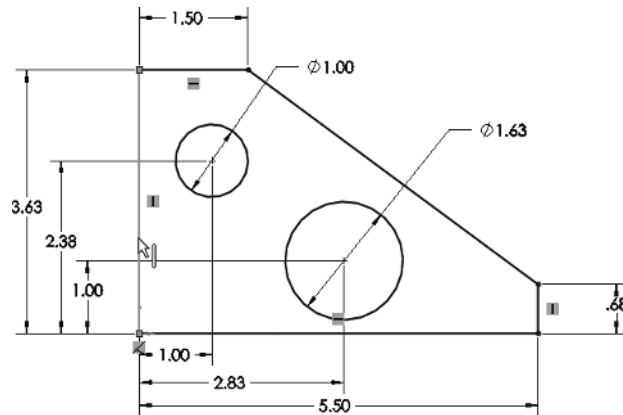

FIGURE 1.32 Selecting a sketch entity
3. Press the left mouse button and release. The item will be selected, as shown in Figure 1.32.